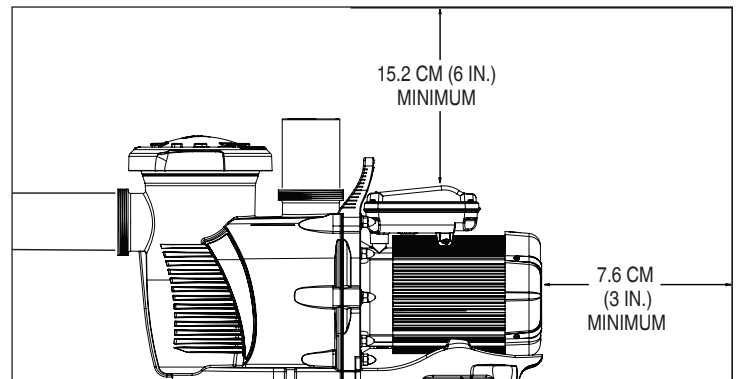

Figure 1: Pump Rear and Vertical Clearance
6. Install the pump with a rear clearance of at least 76 mm (3 inches) so that the motor can be removed easily for maintenance and repair. **See Figure 1.**